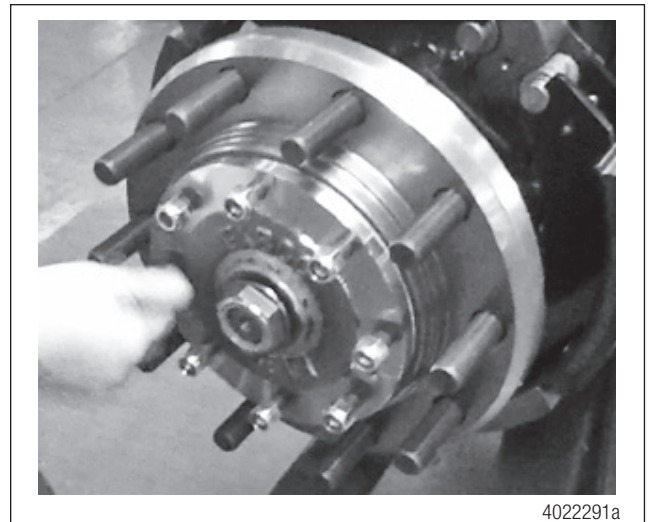

Figure 10
5. Remove the flanged hex nut next to the axle lock nut. Figure 10.